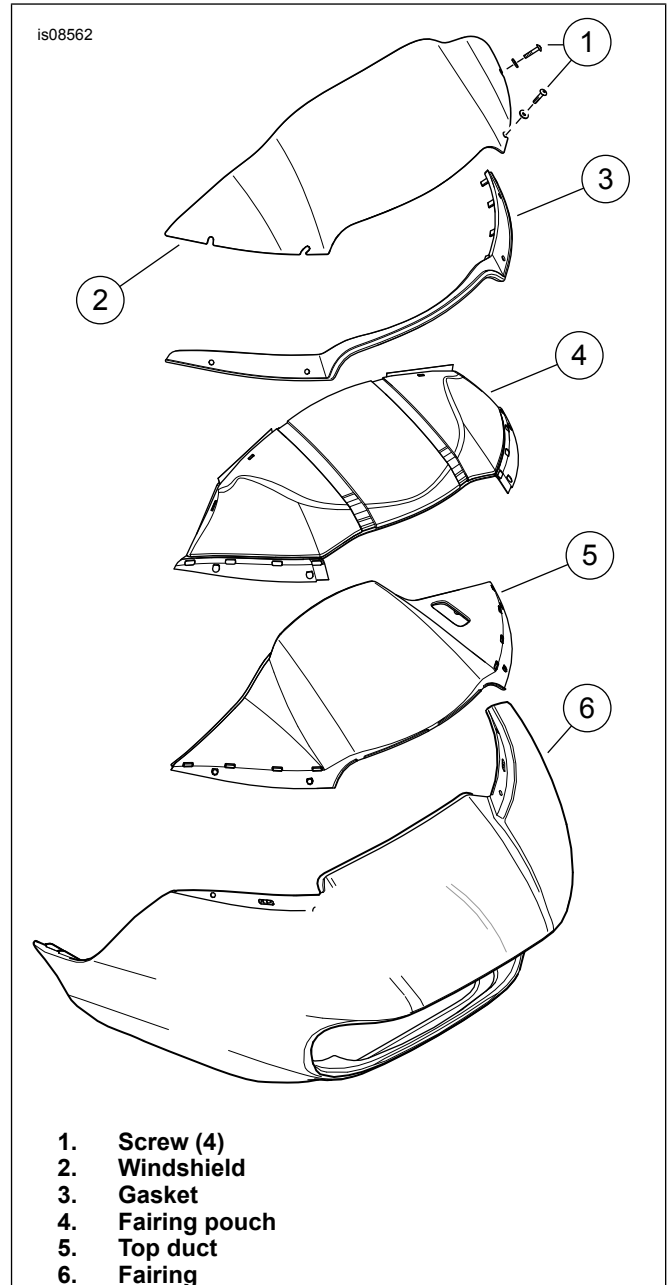

Figure 1. Install Fairing Pouch
1. See Figure 1. Remove four screws (1) securing the windshield at the top of the top duct and fairing, and remove the windshield (2).
2. Remove the rubber windshield gasket (3) from the outer fairing, being careful not to damage the mounting tabs.
3. Place the fairing pouch (4) onto the top duct (5), ensuring that the square holes in the fairing pouch line up with the square mounting holes in the outer fairing.